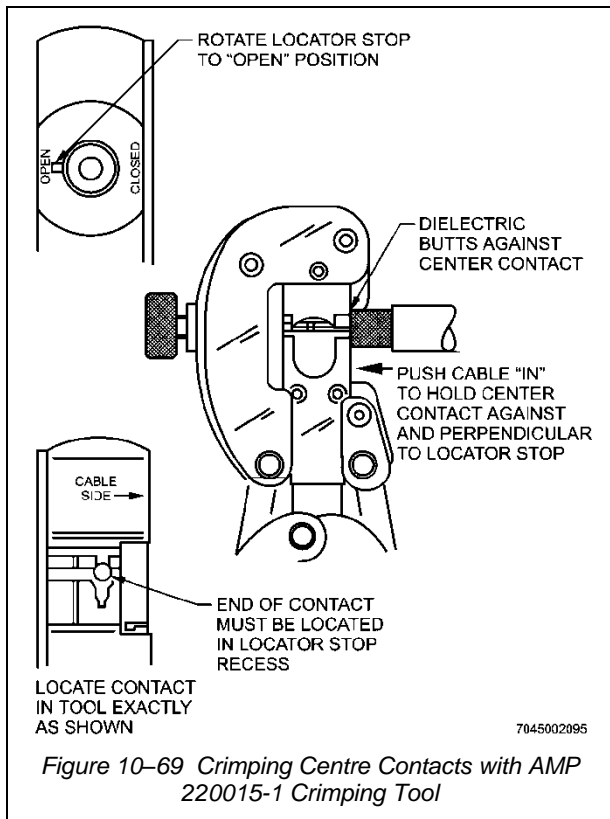

Figure 10-69 Crimping Centre Contacts with AMP 220015-1 Crimping Tool
- (1) Install seal ring (if used) over braid support section of contact against shoulder on contact. (See Figure 10-69)
- (1) Install seal ring (if used) over braid support section of contact. (See Figure 10-69)